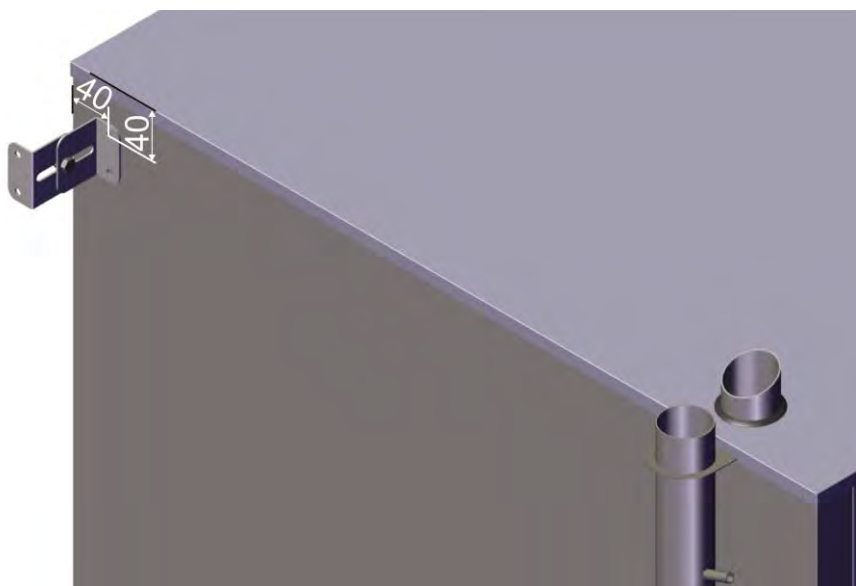
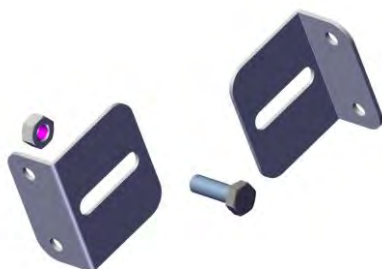

Fig. 61: Dimensions for installation of the wall mount
Fig. 62: Individual parts of the wall mount
17. Use the wall mount (Fig. 62) to secure the top device to prevent it from toppling (recommended dimensions Fig. 61 (40 mm / 1 5/8 inch)).